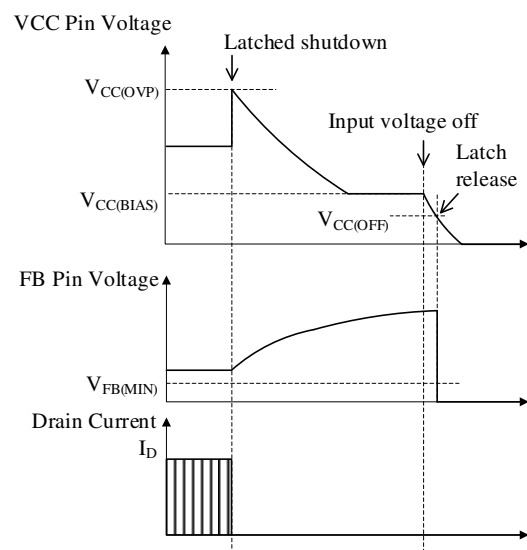

Figure 8-19. VCC_OVP Operational Waveforms
Figure 8-19 shows operational waveforms of the VCC pin overvoltage protection (VCC_OVP). When the voltage across the VCC and S/GND pins reaches $V_{CC(OVP)} = 31.5$ V or more, the VCC_OVP is activated, and then the IC stops switching operation in a latched state. Because the VCC pin voltage is proportional to the output voltage, it can be used to detect an output overvoltage event such as an open load condition. The approximate secondary output voltage at VCC_OVP activation, $V_{OUT(OVP)}$, can be calculated by Equation (4) below: